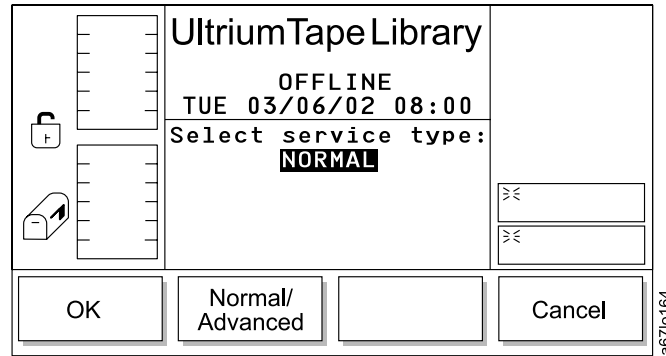

Figure 160. Start Dialog
- If **Start** is selected, the Start Dialog displays (see Figure 160 on page 133).